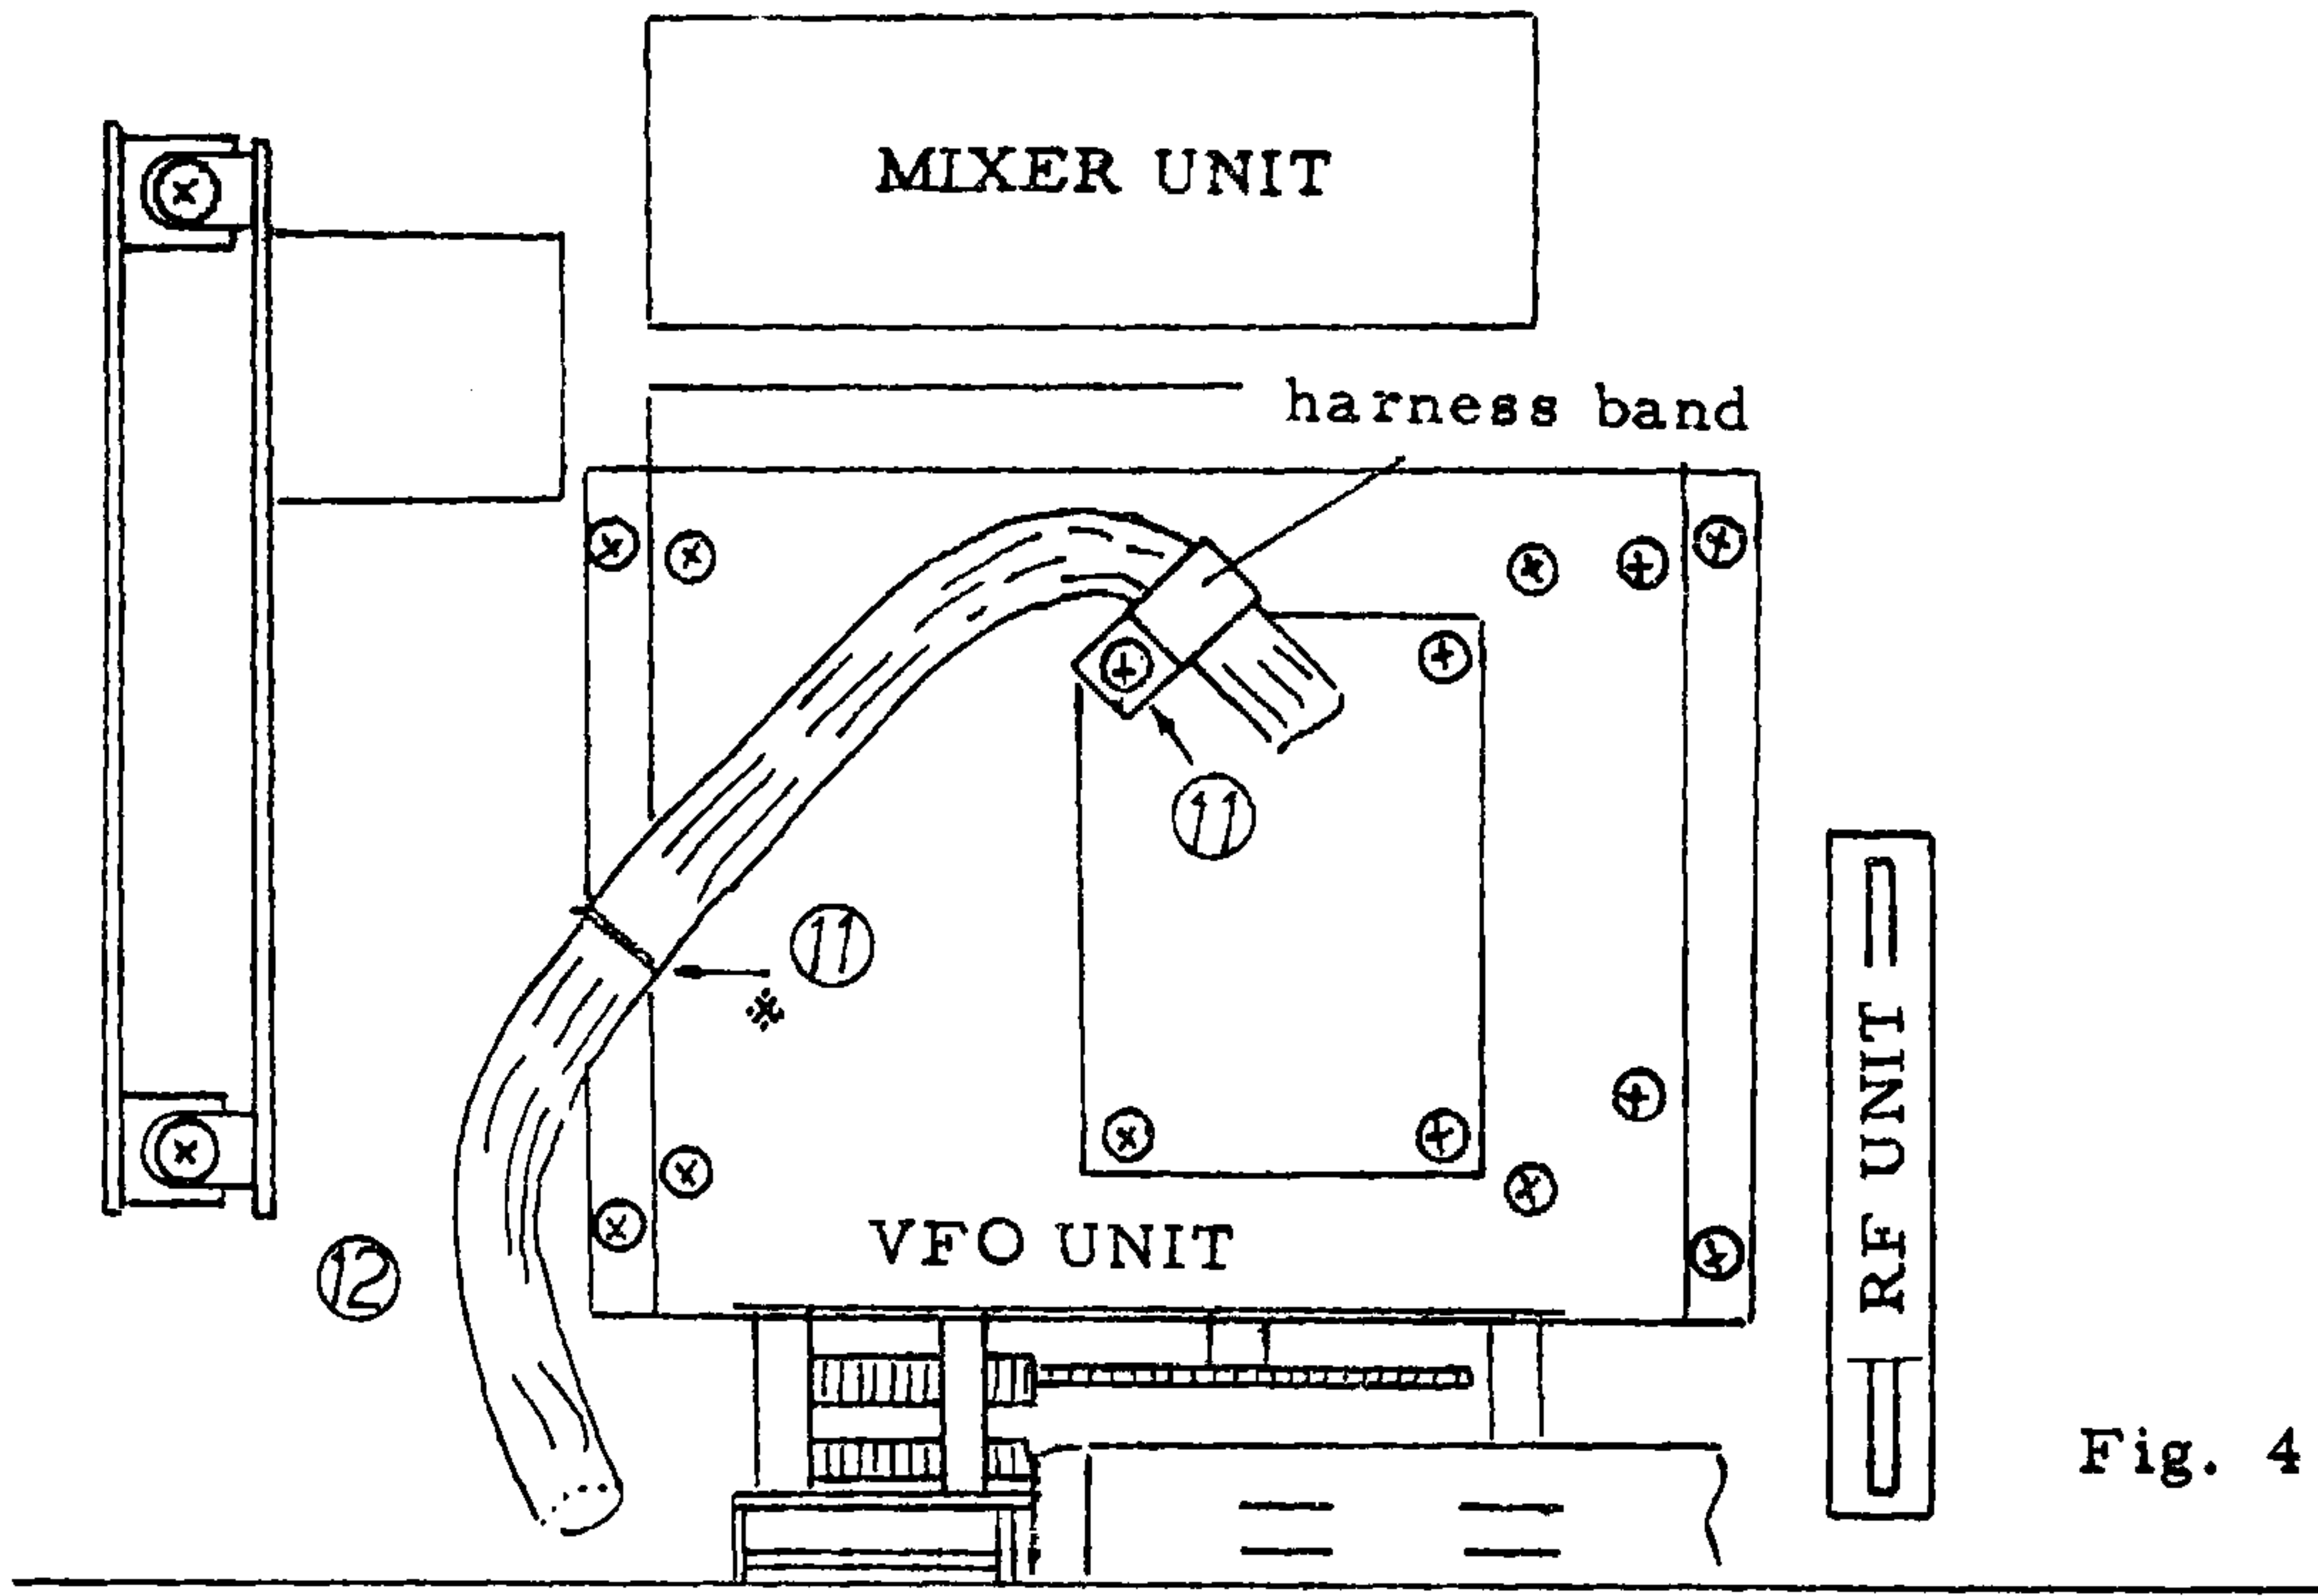

Fig. 4
- (e) Remove harness band (11) from the top of VFO unit. Cut a harness band marked \*. Remove vinyl tube covering the wire harness as illustrated in Fig. 4.